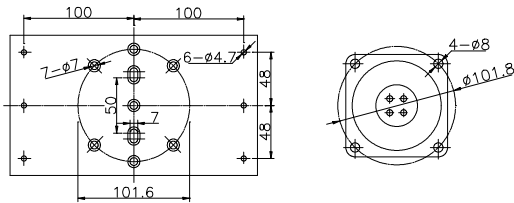

Figure 8
- a、 This outdoor Pan/Tilt unit is intended to be mounted on a wall mount. The unit base has 4 holes equi-spaced on 4" (101.6mm) P.C.D[see figure 8], which line up with the bracket mounting holes. Mount the unit base onto the bracket using the four M6×25 Hex head screws, 6mm washers and the M6 nuts provided in the packing kit.